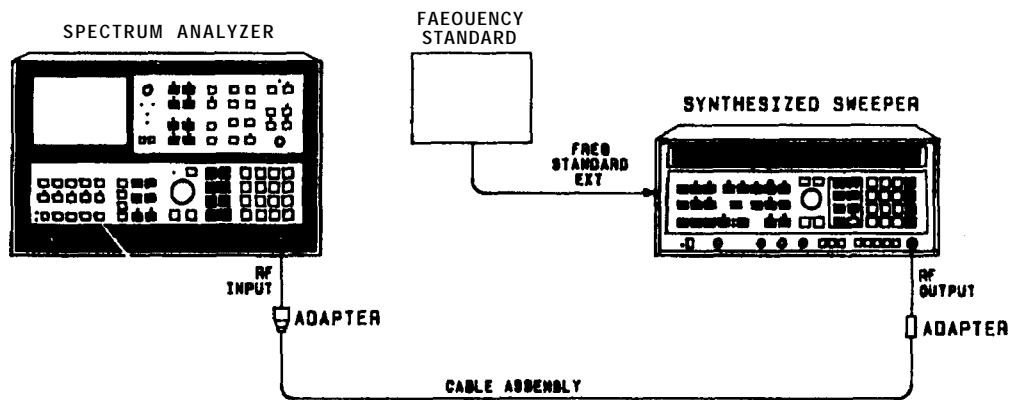

Figure 2-1. Center Frequency Test Setup
6. Connect equipment as shown in Figure 2-1.